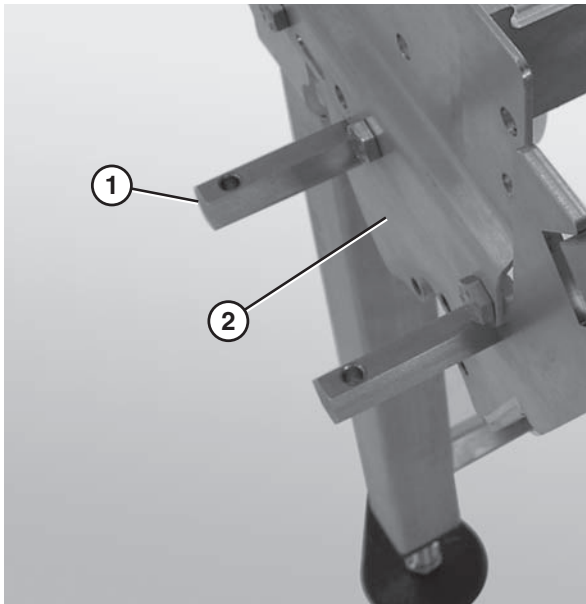

Figure 70
5. Remove the gear reducer mounting posts (**Figure 70, item 1**) from the nose bar side plate (**Figure 70, item 2**).